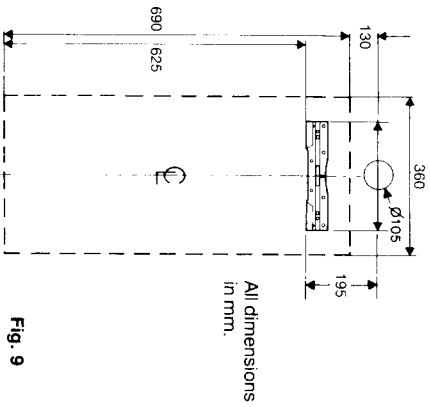

Fig. 9
Refer to fig 9
5.4.1 Place the template on a smooth, vertical, non-combustible surface and use it to locate the bracket base and the flue pipe hole. Alternatively, position bracket and hole to dimensions in fig 9.
Refer to fig. 9 and figs. 10-13 for relevant dimensions for locating the hole. Where it is remote from the boiler take special care to ensure hole is at the correct level so that the finished flue is horizontal.